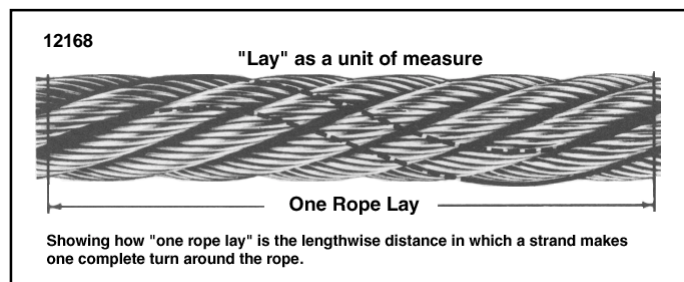

Figure 8-3. Description of One Rope Lay
- (2) Broken outside wires exceeding twelve randomly distributed wires in one rope lay, or four broken wires in one strand in one rope lay. (See Figure 8-3.)